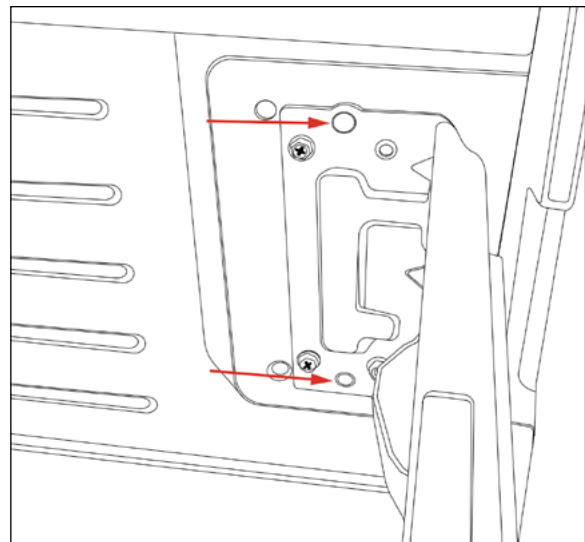

Figure 5
2. Ensure the 2 door studs on each door fit into the holes on the brackets (see Figure 5), then re-secure the 8 screws removed earlier. Hand tighten at first, then fully secure with a drill or screwdriver.